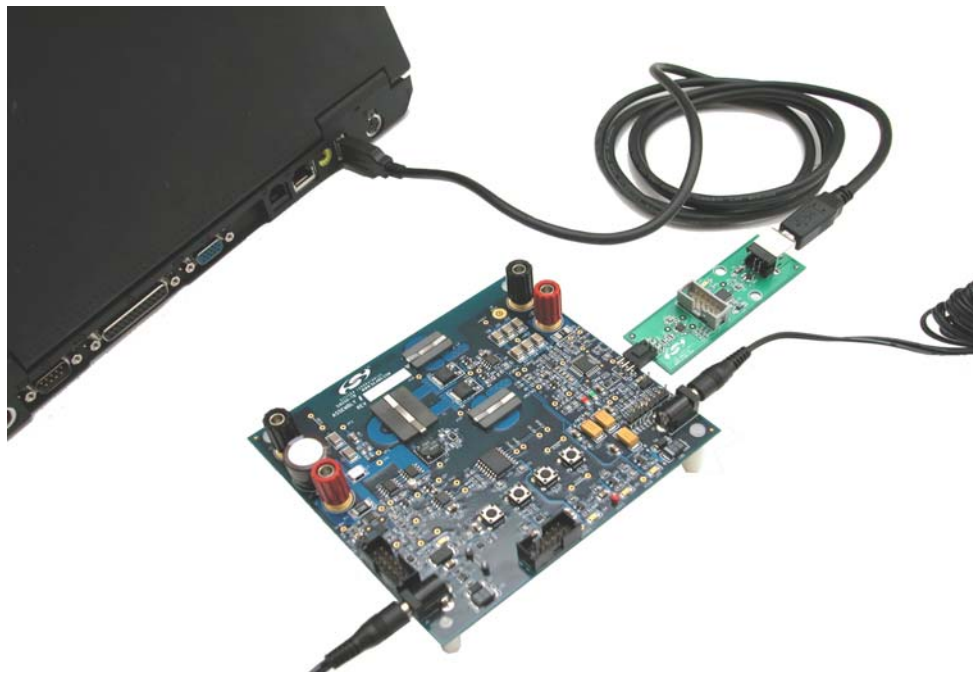

Figure 4. PMBus to USB Adapter Connection
6. Connect the Si8250 Target Board to the USB to SMBus Bridge Board as shown in Figure 4.